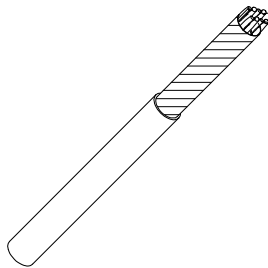

Fig.1
- 1) Strip the cable a minimum of 40mm. (Fig. 1)